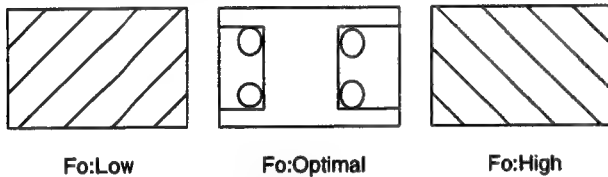

Fig.5-2
5. Adjust **[60 H-FREQ]** so that the slanting lines on the screen will be vertical. (Fig.5-2)
7. Adjust **[50 H-FREQ]** so that the slanting lines on the screen will be vertical. (Fig.5-2)